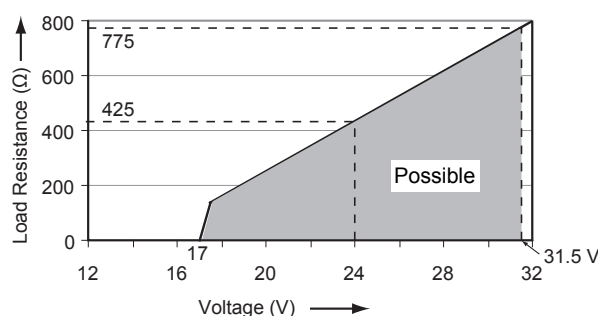

Fig. 2-2. Minimum terminal voltage for the PH202S
- PH202S : 17 to 31.5 volts, see Fig. 2-2.
For the PH202S, see Fig. 2-2.